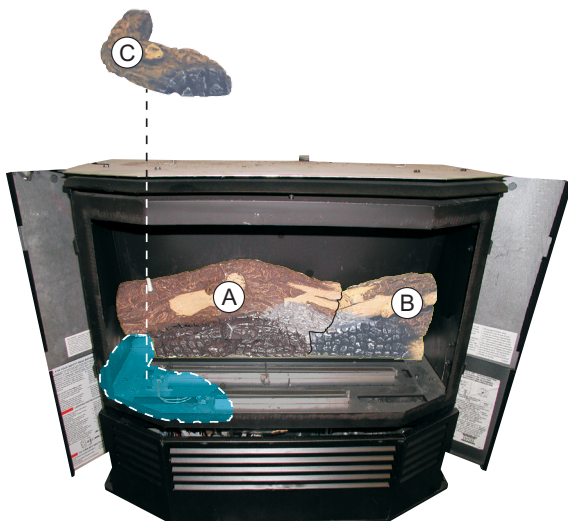

Figure 46
5. Place the Front Left Log (C) into the front left corner of the firebox, and position into the notch on the bottom left of Log (A). See Figure 46